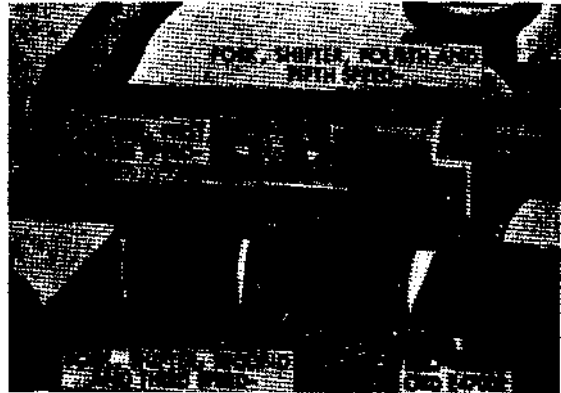

Figure 246. Removing shifter housing assembly
- (2) Remove 14 cap screws securing shifter housing assembly (fig. 246) to transmission case after first placing shifter lever in neutral position. Lift shifter housing assembly from transmission case.